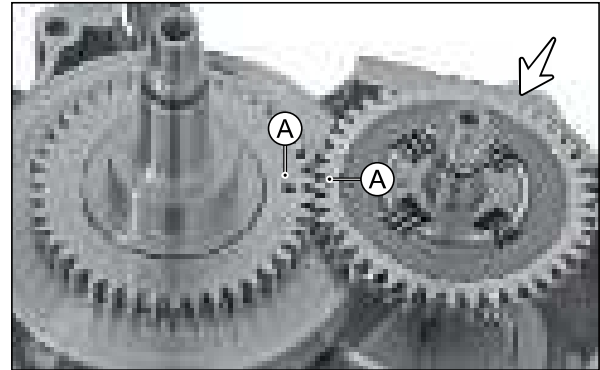

Fig. 3.191
- Assemble the gear balancer shaft driven assembly to the balancer shaft. (Fig. 3.191)
While reassembling, align balancer drive and driven gears to match dot/punch marks (A) in one line as shown in the figure. (Fig. 3.191)